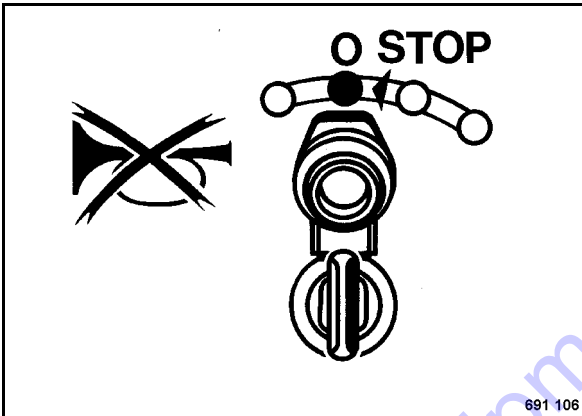

Fig. 40
- Turn the ignition key (Fig. 40) to position "0" and pull it out. The warning buzzer stops.